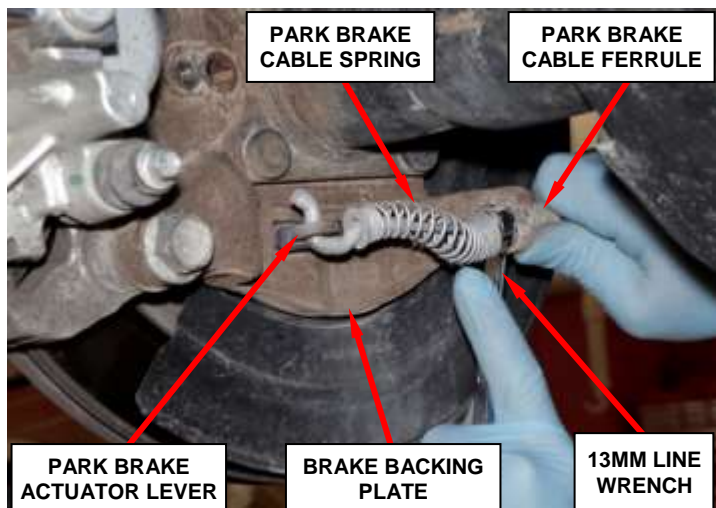

Figure 20 – Park Brake Cable
- c. Pull the park brake cable spring back (Figure 20).
- d. Compress the retaining tabs on each park brake cable ferrule at the brake backing plate using a 13 mm line wrench (Figure 20).
29. Install the park brake cable to the park brake actuator lever (Figure 20).
30. Pull the park brake cable spring back and install the park brake cable ferrule to the brake backing plate. Ensure that the cable ferrule retaining tabs lock into place on the brake backing plate (Figure 20).